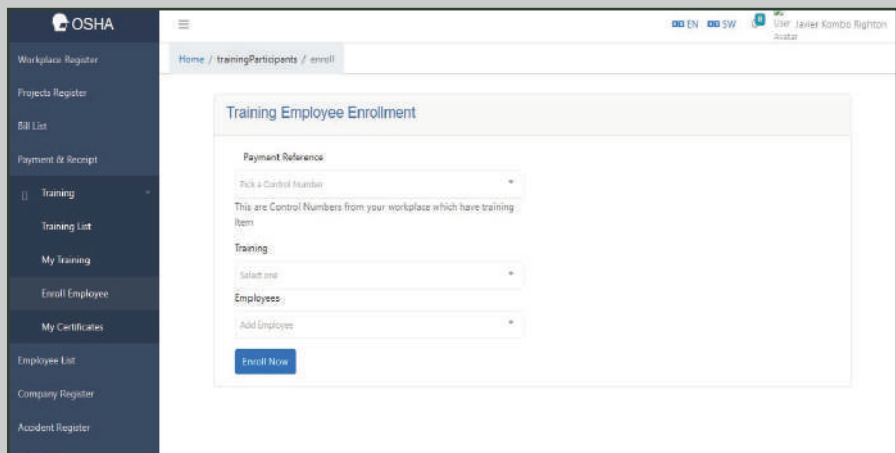

Figure 41: Filling employee enrollment page
- ii) On clicking Enroll Employee system loads Employee Enrollment portal. Fill all required fields and click Enroll Now to save the details as illustrated in Figure 41.